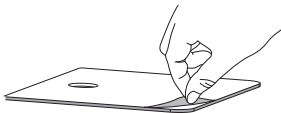

Figure 2
3. Remove the backing from the **Base Pad**. (Figure 2)